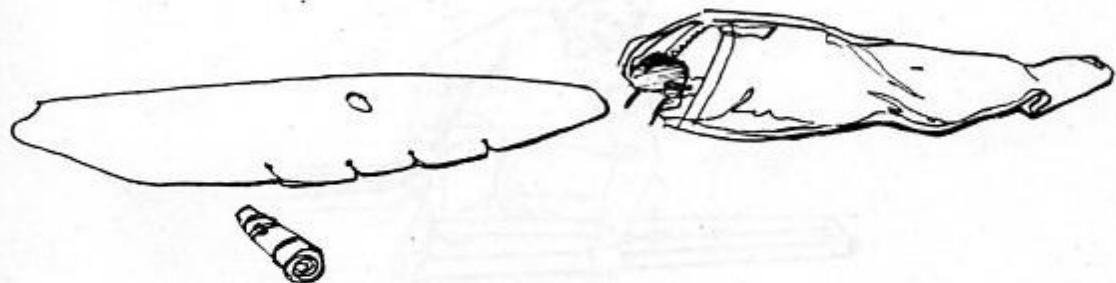

Fig. 3.1.11.
8. Spread the leading edge of the sail so that there are no folds and bends in it. Pull the sail by both edges insert it into the leading edge pocket (Fig. 3.1.11, 3.1.12). Make sure that the sail in the pocket aligns with the top side wire hole in the sail.
8. Spread the leading edge of the sail so that there are no folds and bends in it. Pushing the mylar by both edges insert it into the leading edge pocket (Fig. 3.1.11, 3.1.12). Make sure that hole in the mylar aligns with the top side wire hole in the sail.